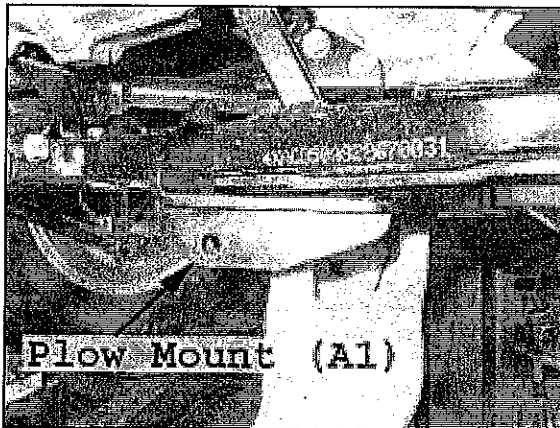

Figure 4 Plow Mount
2. Place the opening of the Plow Mount (A1) over the narrow section of the ATV frame. Slide the plow mount back until it stops as shown in Figure 4. Reposition the plow mount as needed such that the sides of the plow mount are aligned with the sides of the ATV.